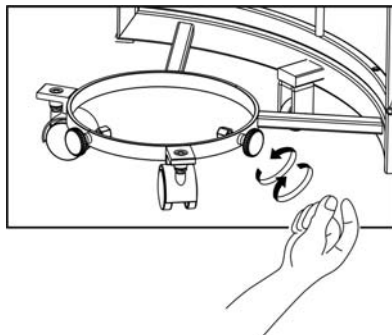

Figure 7
6. Tighten the threaded knobs found on the tank tray (Figure 7) so that the LP tank cannot move from side to side. Do not remove the plastic cap from the end of the threaded section.